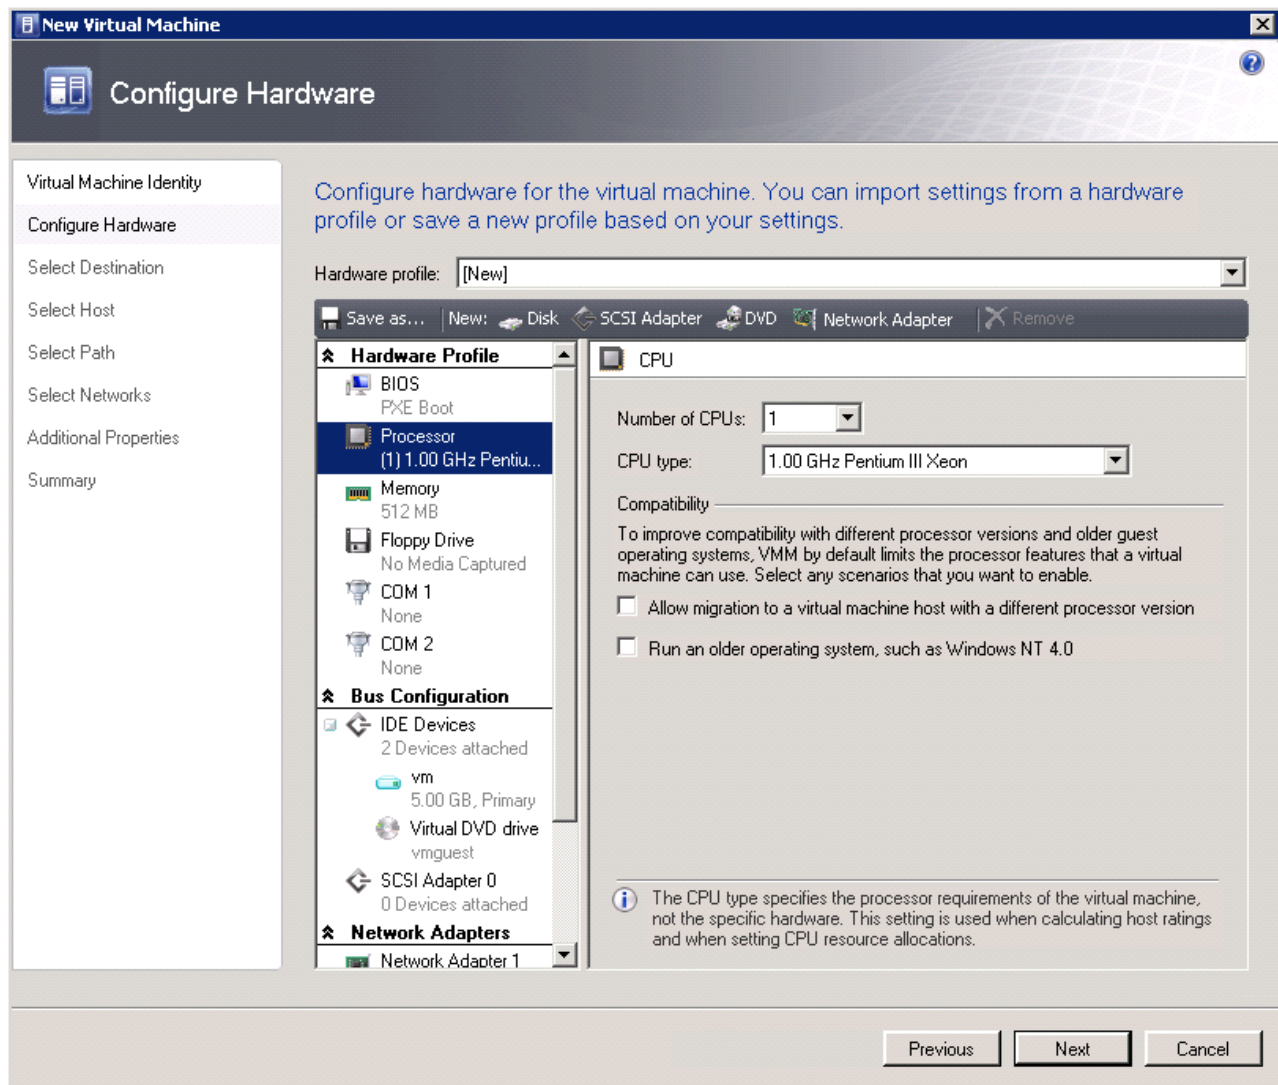

Figure 3-64 SCVMM New Virtual Machine: Configure Hardware
3. In the Configure Hardware window, customize the virtual hardware configuration and virtual machine type (virtual machine or virtual appliance), as shown in Figure 3-64. Click **Next**.